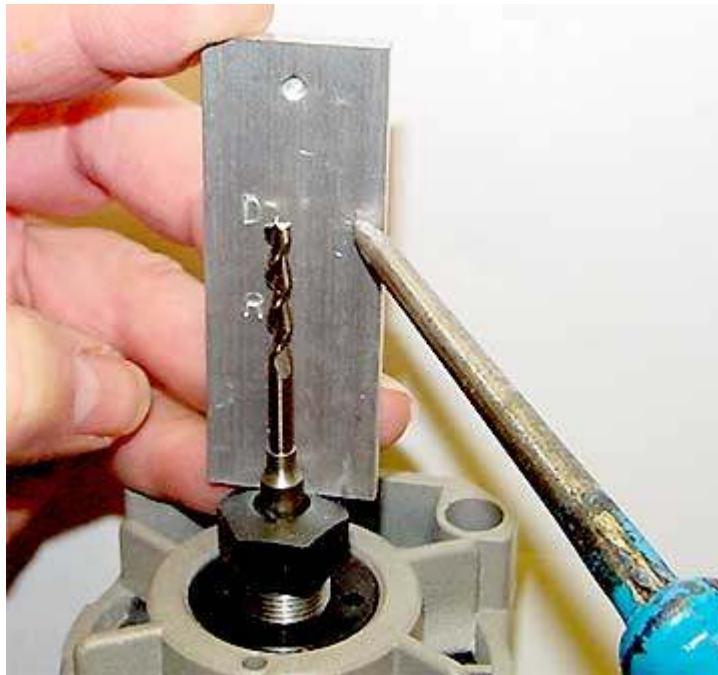

Figure 31
5. Replace the bit. A Bit Gauge is provided to record your preferred Router Bit Height. Once a preferred setting is selected, mark or scribe your settings on the aluminum plate. ("R" Router) **See fig. 31.**
5. Replace the bit. A Bit Gauge is provided to record your preferred Drill Bit Extension. Once a preferred setting is selected, mark or scribe your settings on the aluminum plate. ("D" Drill) **See fig. 31.**